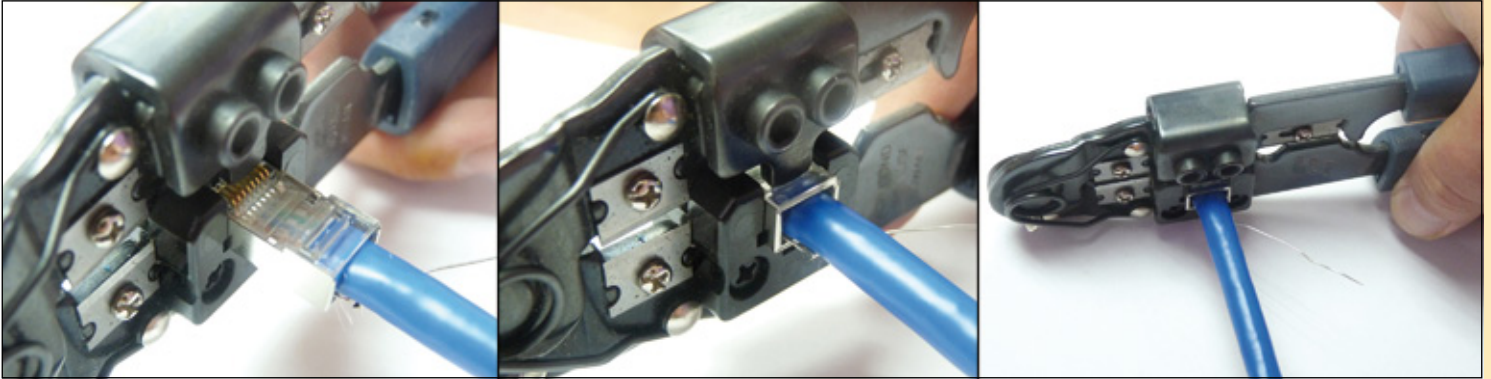

Figure 21
- 16 Proceed to crimp the plug with the Crimper-Cutter tool as shown in Figure 21.